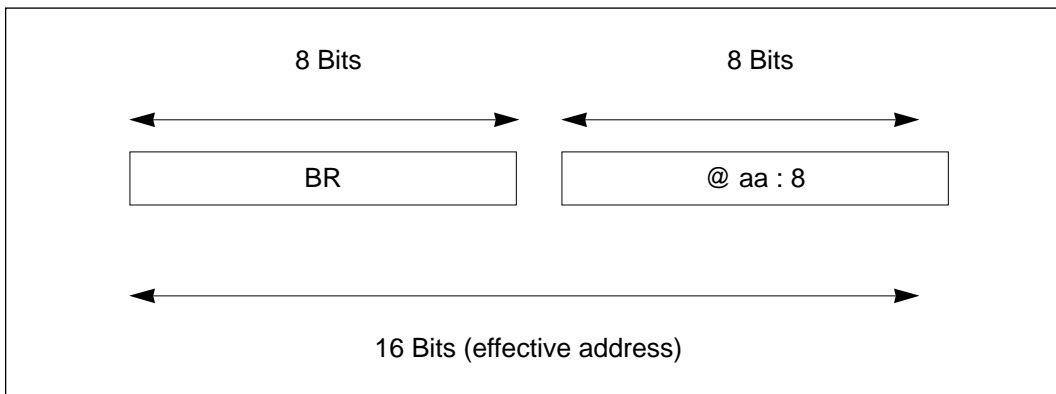

Figure 3-5 Short Absolute Addressing Mode and Base Register
Base Register (BR): This 8-bit register stores the base address used in the short absolute addressing mode (@aa:8). In this addressing mode a 16-bit effective address is generated by using the contents of the base register as the upper 8 bits and an address given in the instruction code as the lower 8 bits. See figure 3-5.